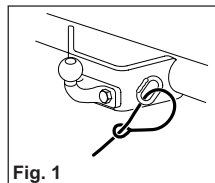

Fig. 1
**Stabiliser operating instructions****Fig 1**
Coupling handle (Fig. 1/Item 1), Stabiliser Lever (Fig. 1/Item 2)
- Pass the cable through the attachment point and clip it back on itself (Fig. 1).